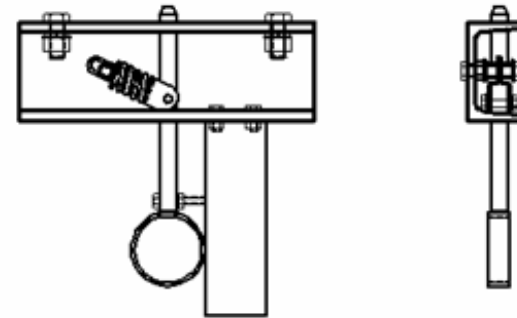

Fig 20
**4.3.2.3.** Place the locking device, by means of the two screws, in the two perforations that are under the support of the countershaft, tightening it only by hand for now. (Fig 20).
Place the locking device in the locked position and tighten the two fastening screws to the support (fig 20).